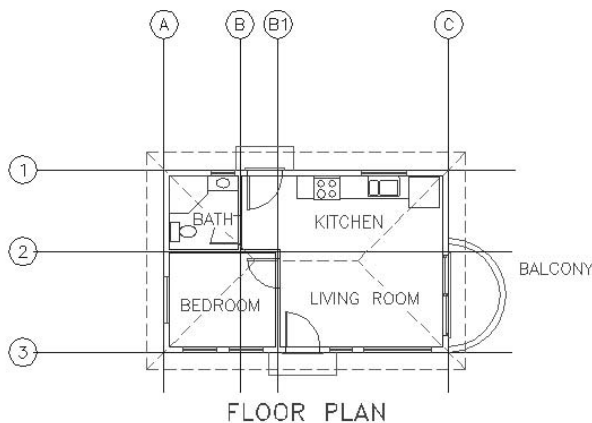

FIGURE B.13: All room_info blocks inserted
13. Erase the points you used to locate the insertion points. Your drawing will look like Figure B.13.